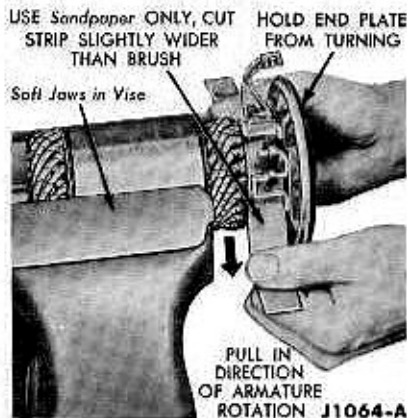

FIG. 17—Starter Brush Seating
8. Make sure that the new brushes slide freely in the holders. Seat the new brushes by sanding (Fig. 17).